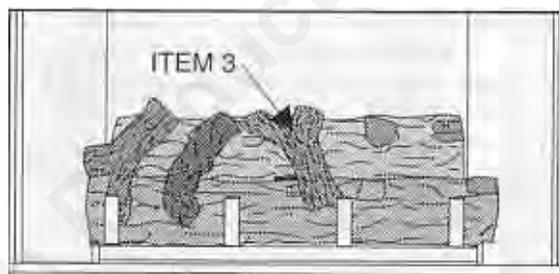

Figure 35
6. See Figure 35. The remaining "Y" Log (Item 3) is installed next. This time the straight portion of the log lies on the front log on the indentation near the center. Angle this log slightly to the left and rest the "Y" portion on the indentations located near the center of the Back Log.